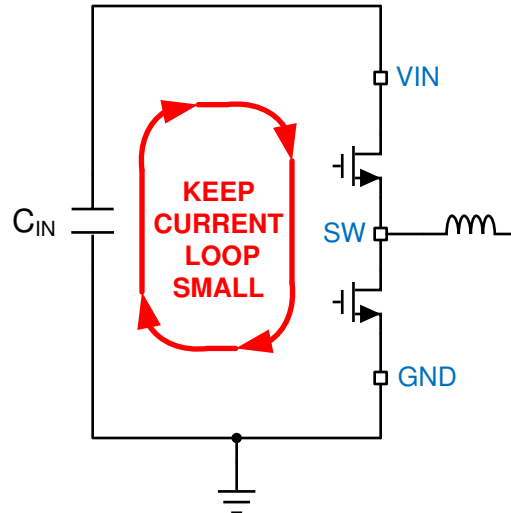
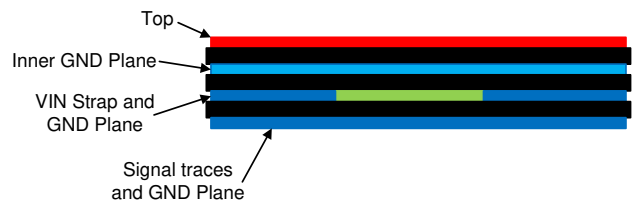

图 10-1. Current Loops with Fast Edges
图 10-3. Example Layout for VQFN Package
The PCB layout of any DC/DC converter is critical to the optimal performance of the design. Bad PCB layout can disrupt the operation of an otherwise good schematic design. Even if the converter regulates correctly, bad PCB layout can mean the difference between a robust design and one that cannot be mass produced. Furthermore, the EMI performance of the regulator is dependent on the PCB layout, to a great extent. In a buck converter, the most critical PCB feature is the loop formed by the input capacitor or input capacitors, and power ground, as shown in Figure 10-1. This loop carries large transient currents that can cause large transient voltages when reacting with the trace inductance. These unwanted transient voltages will disrupt the proper operation of the converter. Because of this, the traces in this loop must be wide and short, and the loop area as small as possible to reduce the parasitic inductance. Figure 10-2 and Figure 10-3 show recommended layouts for the critical components of the LMR33620.
1. **Place the input capacitor or capacitors as close as possible to the VIN and GND terminals.** VIN and GND pins are adjacent, simplifying the input capacitor placement. With the VQFN package there are two VIN/PGND pairs on either side of the package. This provides for a symmetrical layout and helps minimize switching noise and EMI generation. A wide VIN plane must be used on a lower layer to connect both of the VIN pairs together to the input supply; see Figure 10-3.